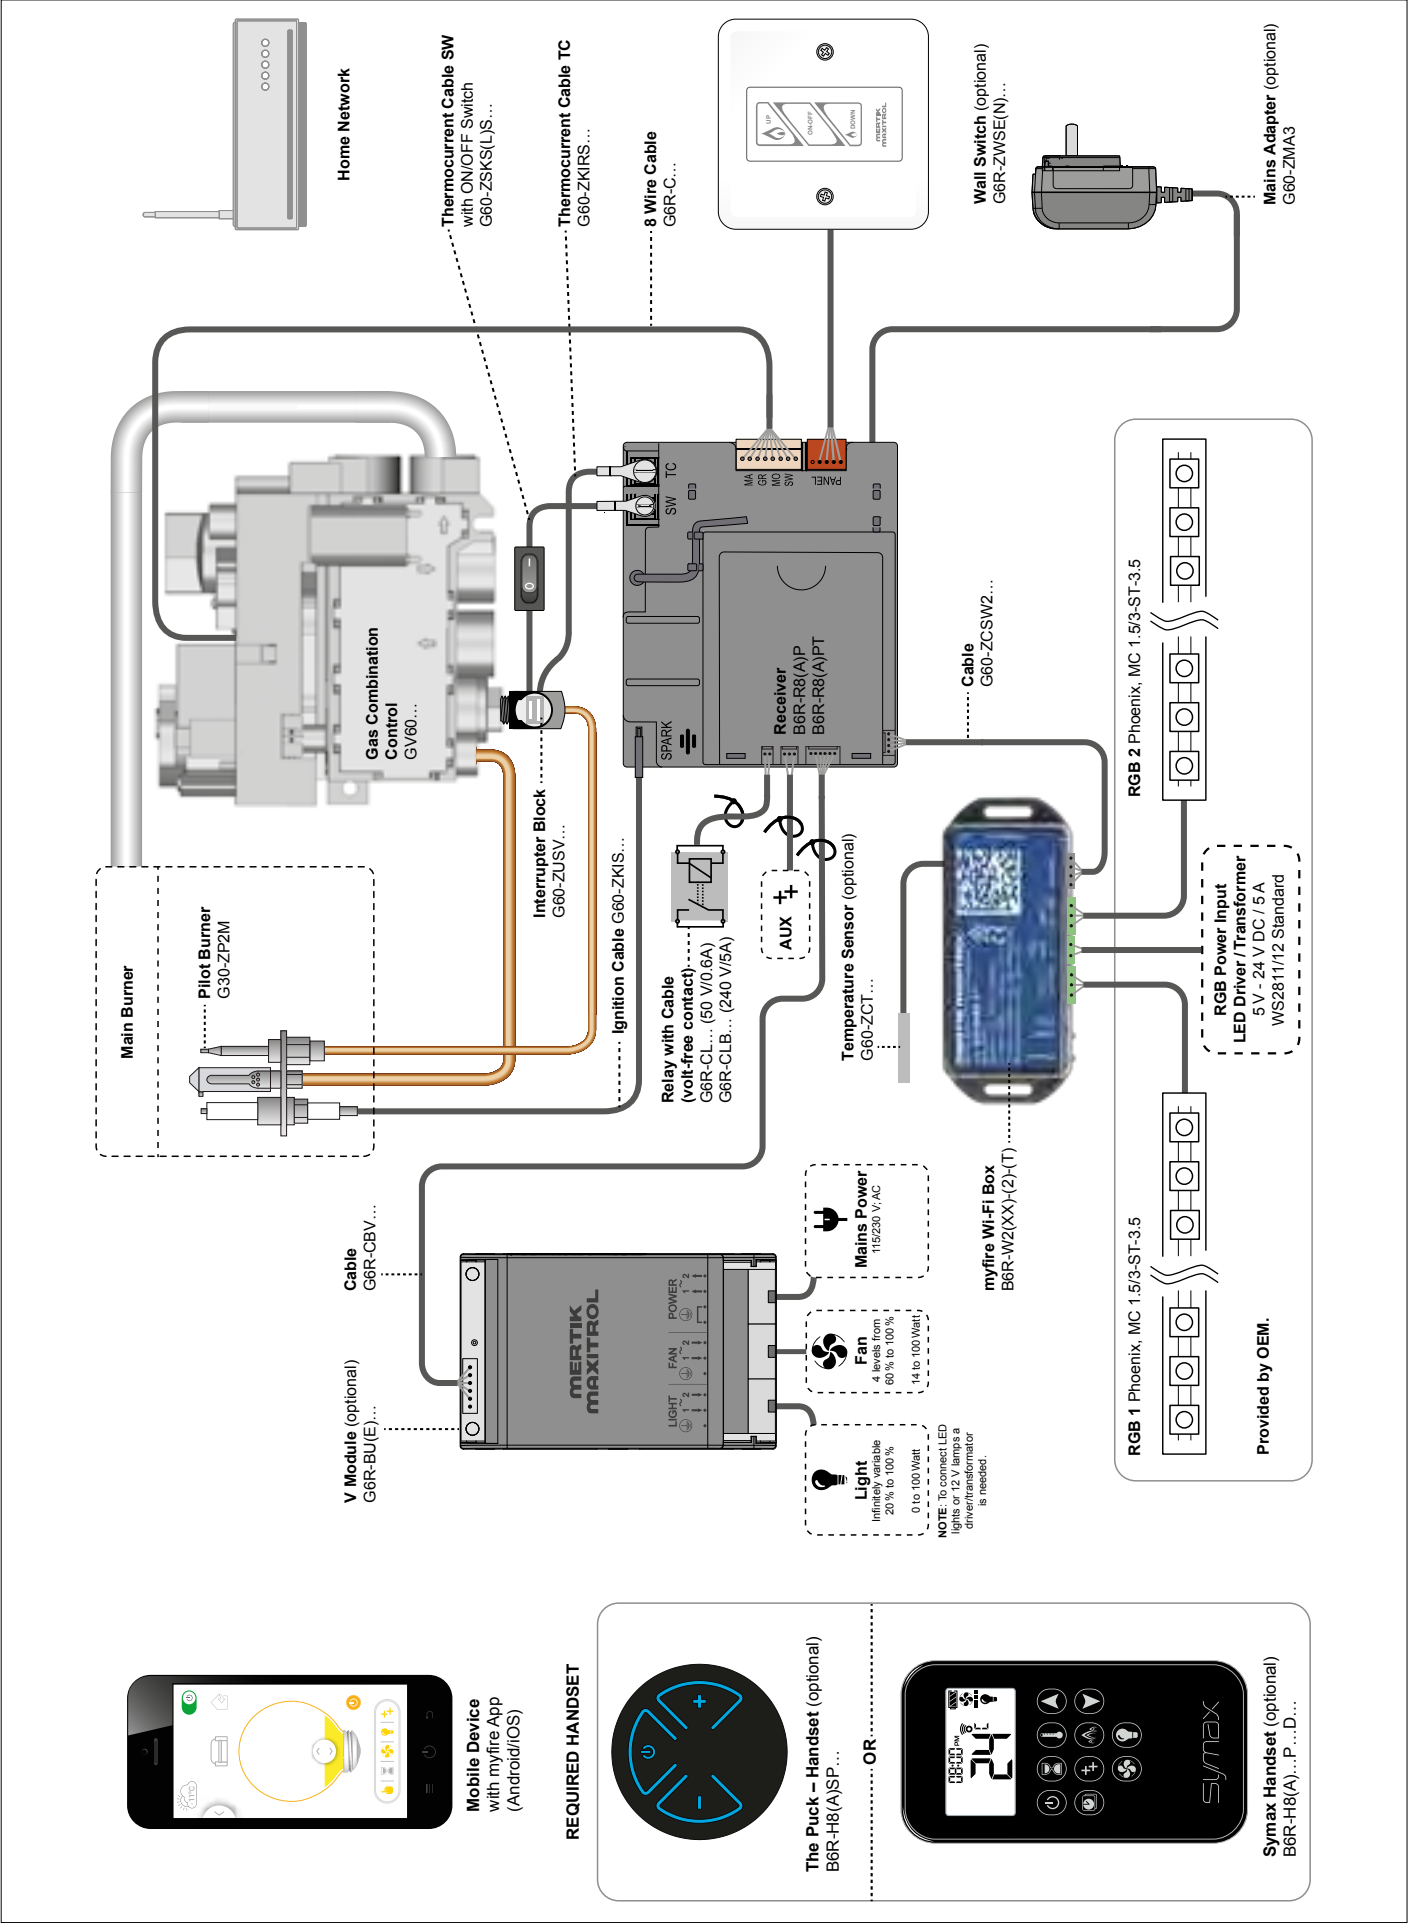

Figure 30
- The myfire Wi-Fi Box must be wired to the receiver according to the myfire app setup diagram (see figure 30, page 29)